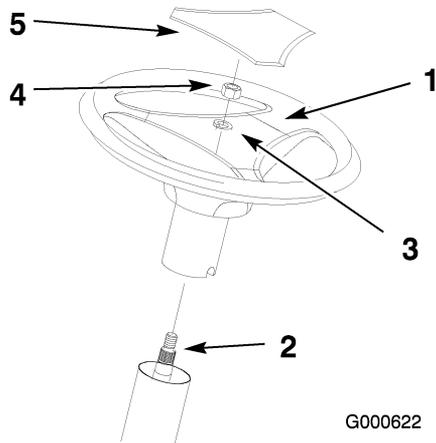

Figure 3
3. Line up the center spoke toward the seat and position the steering wheel onto the shaft spline (Figure 3).
4. Secure the steering wheel with a lockwasher (1/2 inch) and nut (1/2 inch) (Figure 3).
6. Snap the logo cover into place (Figure 3).